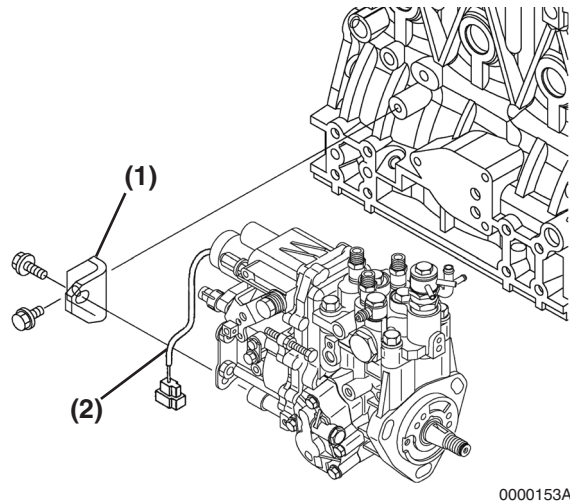

Figure 7-28
6. Reinstall the rear bracket(s) **(Figure 7-28, (1))** to the fuel injection pump. Tighten the rear support bolts.